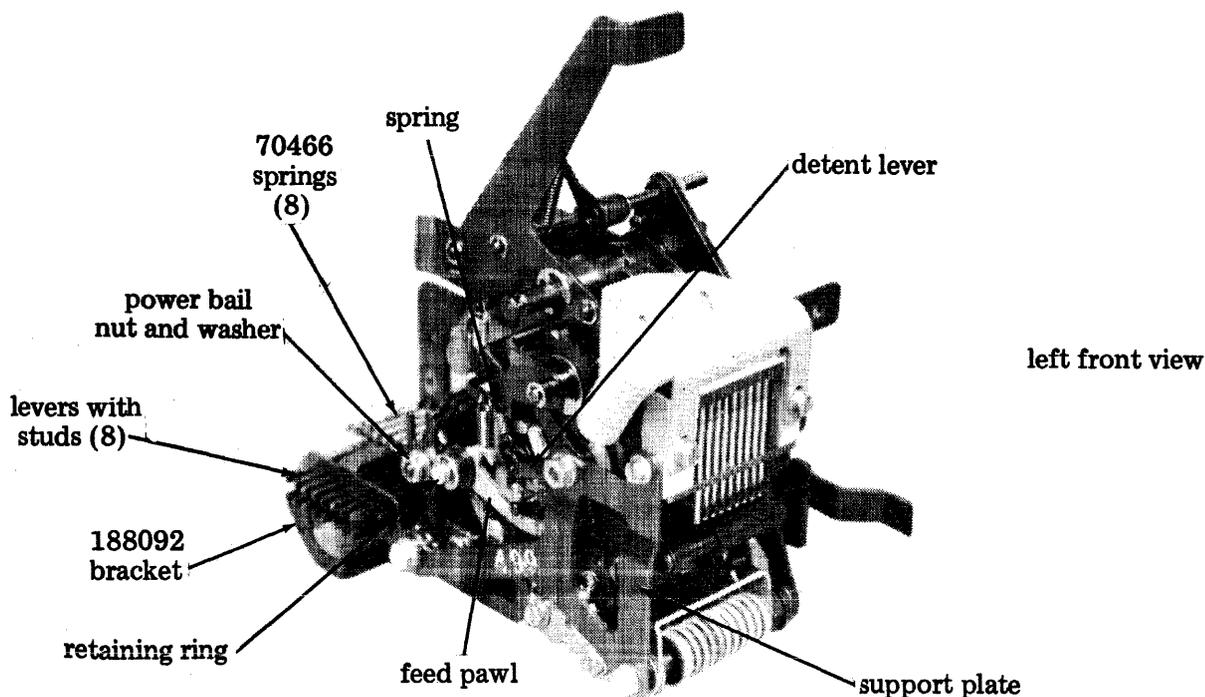

Figure 4 - Pawl, Lever, and Spring Combination
2.11 Disassemble pawl, lever, and spring (Figure 4) as follows: